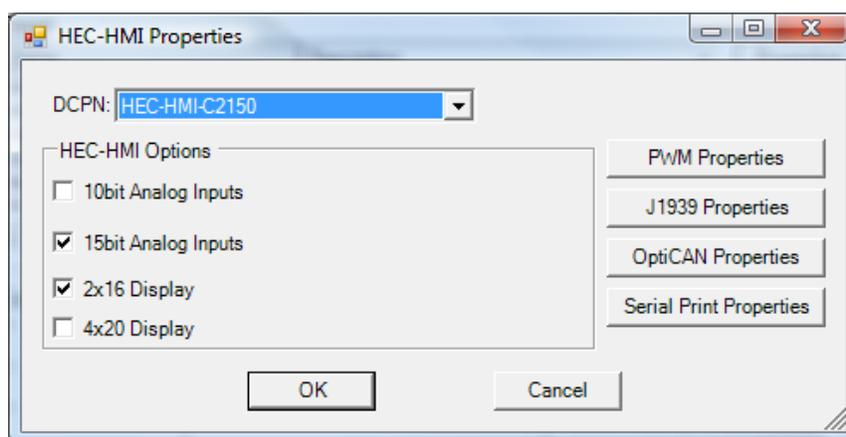

Figure 2 - HEC-HMI Properties Window
2. Click the **PROPERTIES** button. A new window will open. Select the **HEC-HMI-4** Model number of the HEC-HMI from the drop-down menu. Click **OK**. This will close the HEC-HMI Properties Window, saving the **HEC-HMI-4** as the target for this ladder diagram project. Refer to Figure 2.